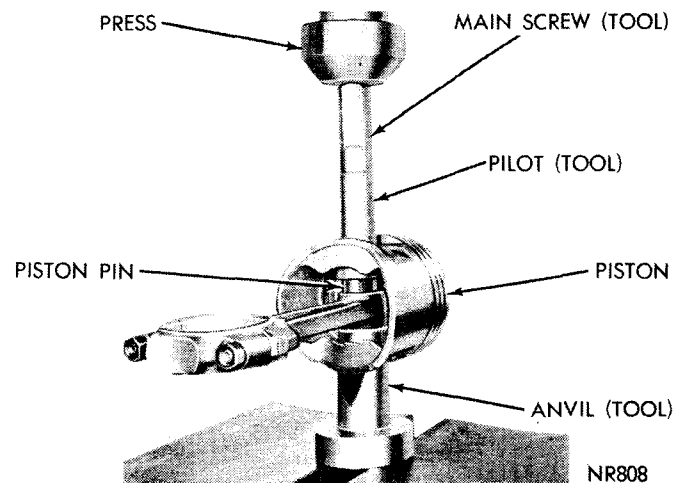

Fig. 30—Removing Piston Pin
(2) Install pilot on main screw.
(3) Install the screw through piston pin.
(4) Install anvil over threaded end of main screw with small end of anvil against piston boss.
(5) Install nut loosely on main screw and place assembly on a press (Fig. 30).